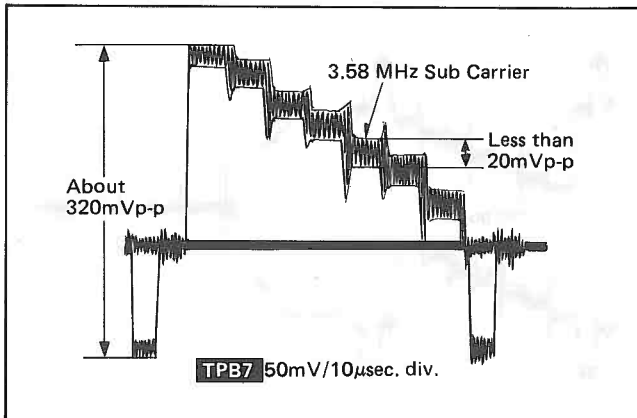

Fig. 31
7. If the amplitude is more than 20mVp-p repeat the adjustments described in step (4) through (6).
11. Confirm that 3.58 MHz sub carrier portion of the magenta is less than 20mVp-p as shown in Fig. 31.